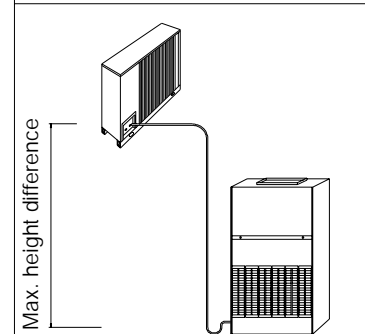

Figure 6
- If the condensing unit is higher than the evaporating unit, only install the socket (see Fig. 6). Note that if the total distance exceeds 7-10 metres, the solenoid valve must be installed on the liquid line.